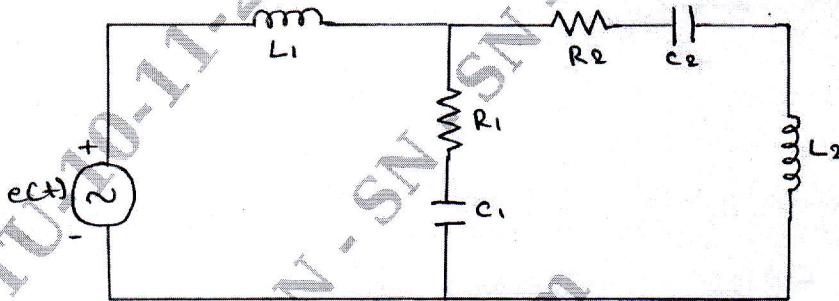

Fig. Q1 (b)
- b. Draw an equivalent mechanical network using force voltage analogy as shown in Fig. Q1 (b). (08 Marks)